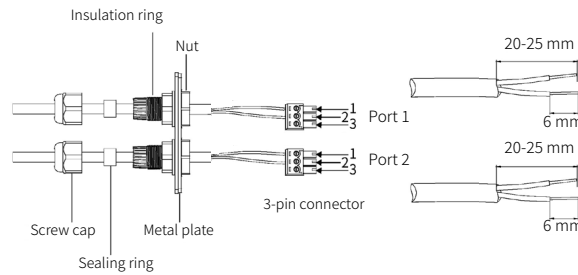

Fig. 41. Terminal connection process.
2. Pass the wire through the hole and connect it to the terminal in the following order: screw cap, sealing ring, insulator, metal plate, nut and 3/6 pin connector, as shown in Fig. 41: